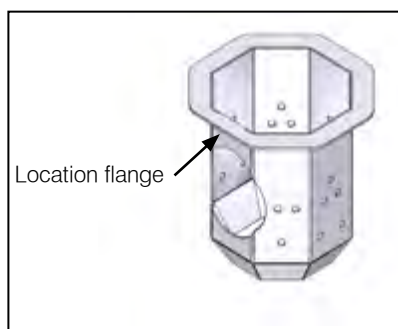

Figure 12-19: Flame pot flange
- Clean and inspect the brazier assembly, flame pot (refer to Figure 12-19), brazier base plate and brazier front plate.
The flange on one side of the octagonal pot is narrower than the other seven sides. Refer to Figure 12-19. This side **MUST be located on the left hand side or the pot will not fit into the burner housing.**